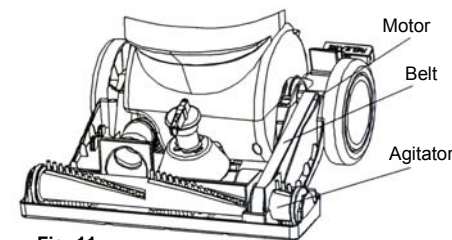

Fig. 11
- Loop the new belt first over the drive shaft then over agitator into the groove on the right side of the agitator. (Fig. 11)